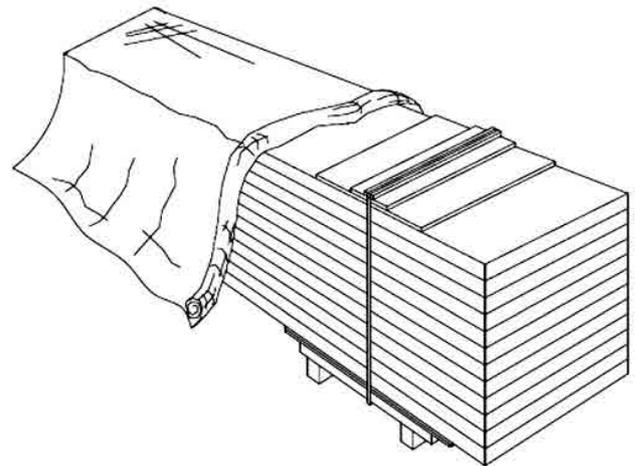

Fig. 5. Correct protection of panels with textile cover.
- Provide panels intended for open-air-storage with adequate protection against rainwater, snow, wind and contamination. Use canvas covers to provide adequate protection – see fig. 5 (it is forbidden to use plastic film for protection purposes). The canvas covers ensure adequate ventilation and prompt evaporation of accumulated moisture. Absolutely avoid water collection between the panels, as in case of prolonged storage without adequate ventilation, this may damage them.